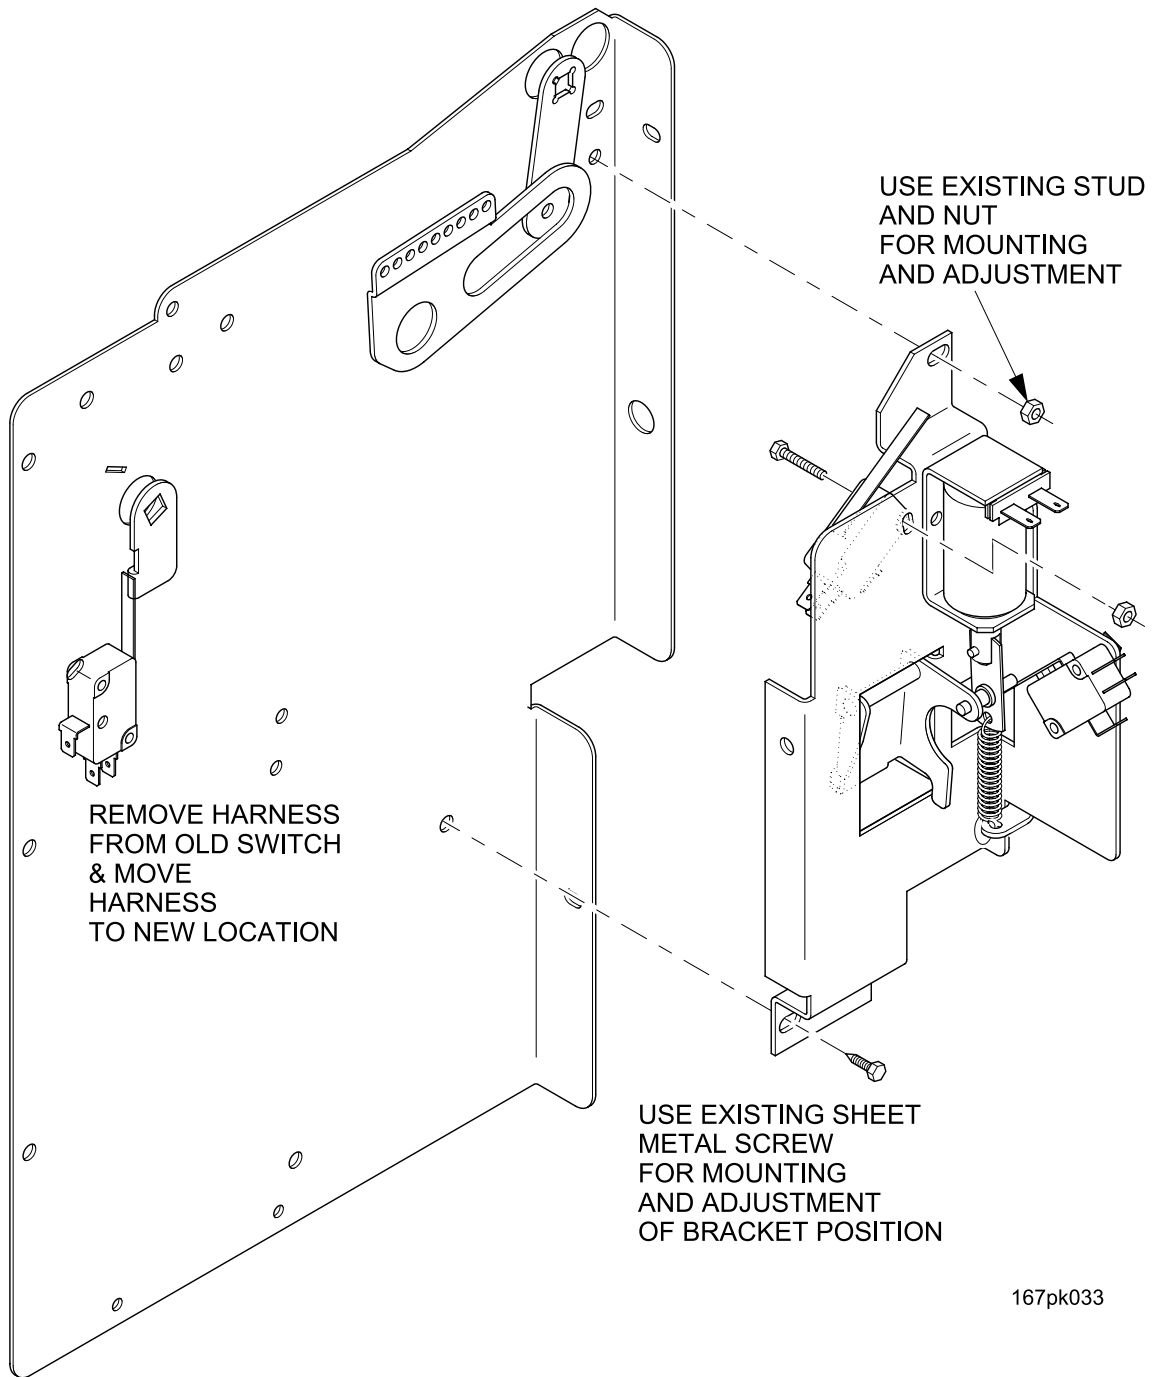

Figure 1
2. Install and adjust the new lock assembly using existing hardware (see figures 1 and 2).